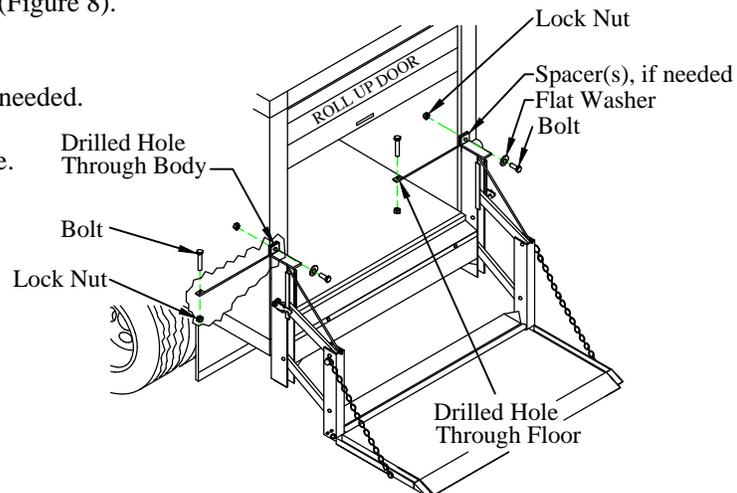

Figure 8: Van body top mounting ear.
- 2. Drill** 1/2" holes through the van body using the liftgate mounting ears as a guide (Figure 8).
- 3. Insert** 1/2" bolts with flat washers through the mounting ears and through the truck (Figure 8).
Position the straps inside the body so they go down to the floor (Figure 8).
- 7. Bolt** the straps to the truck floor using the supplied 1/2" bolts and lock nuts (Figure 8).